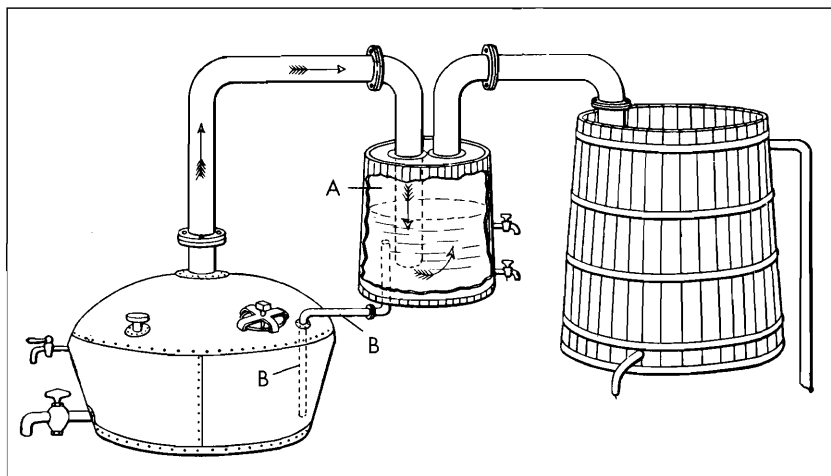

Figure 14-6. Still with a "doubler." Illustration courtesy of *Practical Distiller* by Leonard Monzert (Lindsay Publications, 1987).
Various improvements on the simple still design result in a highly concentrated alcohol processed in a single pass through the still. One such improvement is the “doubler” (shown in Figure 14-6), located between the kettle and the condenser. In the doubler tank (A), hot vapors from the kettle condense in the